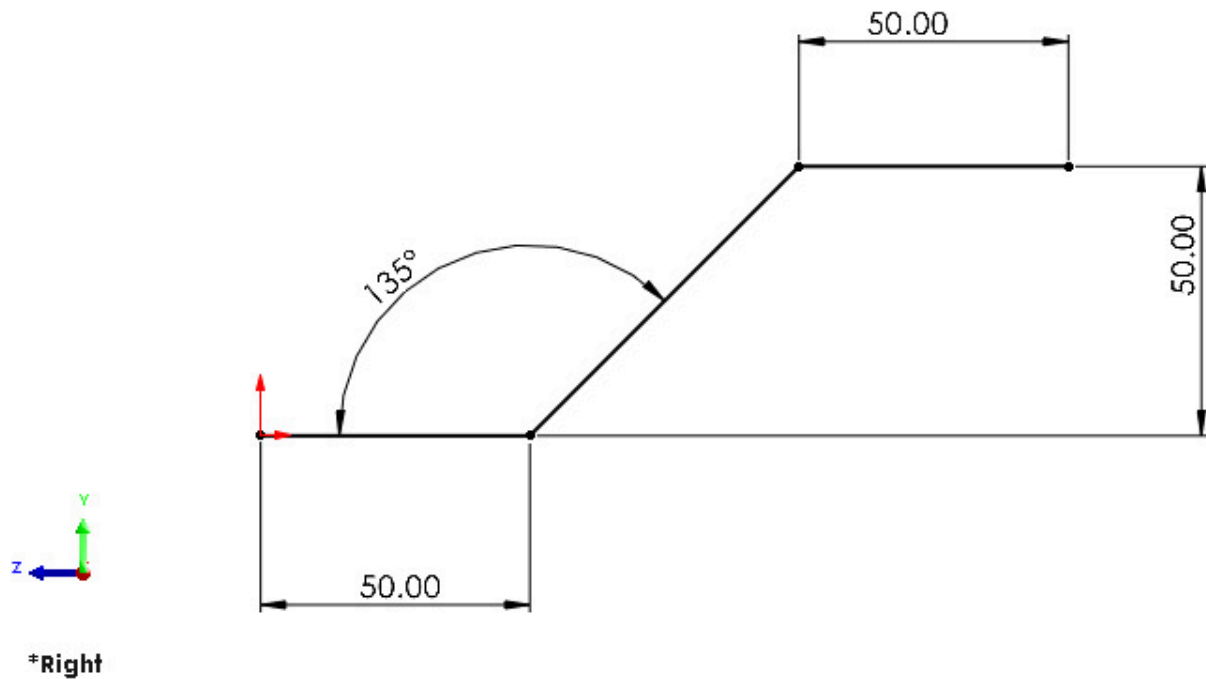

Figure 11.9: Sketching an open profile
2. Use the **Line** tool to draw the sketch shown in *Figure 11.9*.